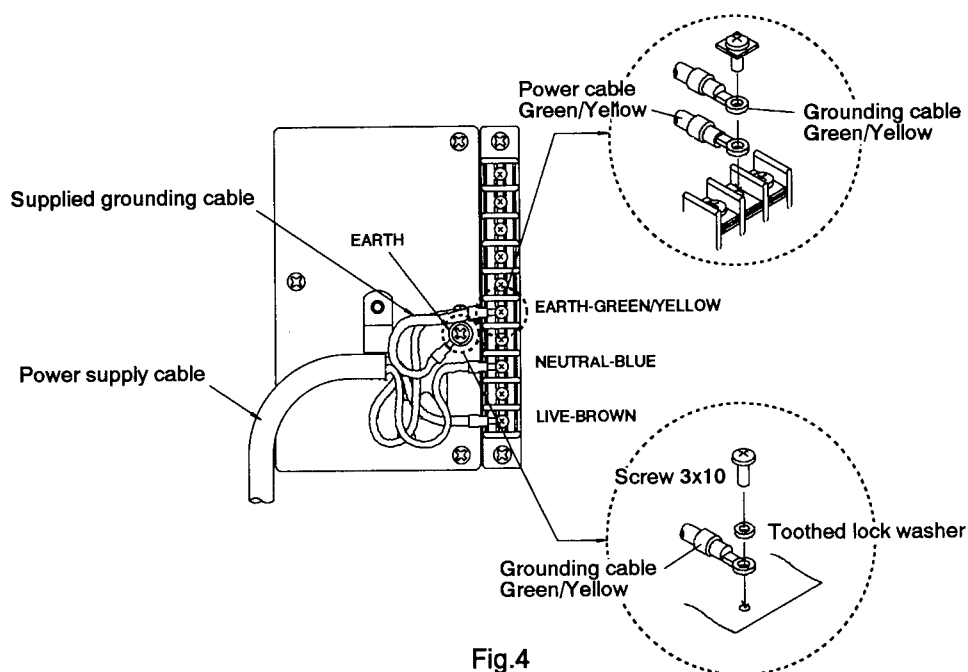

Fig.4
6. Connect the power cable to the 10-pin terminal block in the following order. (Figure 4)
Using the supplied grounding cable, connect the ground terminal on the 10-pin terminal block to the ground terminal on the sub-panel. For connections of the supplied grounding cable and power cable to the ground terminal on the 10-pin terminal block, refer to Figure 4.
Also, when connecting the grounding cable to the sub-panel, insert the supplied toothed lock washer as shown in Figure 4.